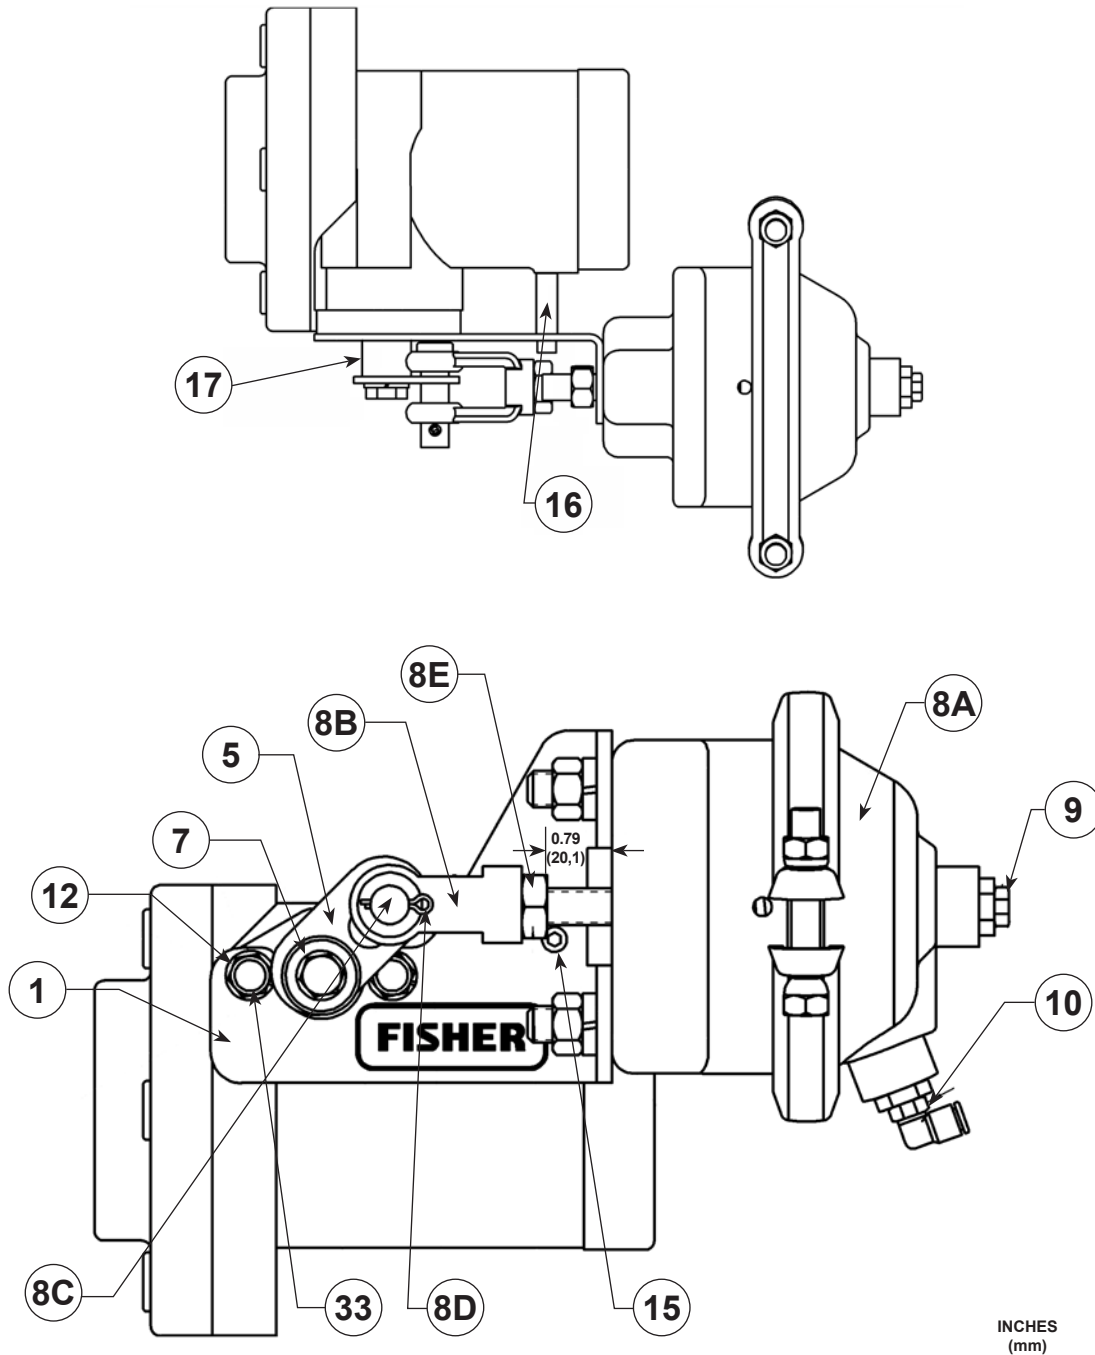

Figure 3. Type P539 Pneumatic Actuator
Refer to Figure 3, **mounting the actuator as following steps:**
1. Mounting the actuator BRACKET the same direction as Figure 3 onto the valve's rear gland. Turn the rear gland plate half rotation clockwise to apply tension to the internal spring. Tighten the two rear gland bolt (key 33). **DO NOT OVER TIGHTEN THE GLAND BOLT** because binding of the ESV shaft could occur. Tighten the gland bolt only enough to prevent leakage.
2. Install the bracket spacer (key 16) and hex bolt (key 15) through hole in the bracket and attach to the N550 Series body.